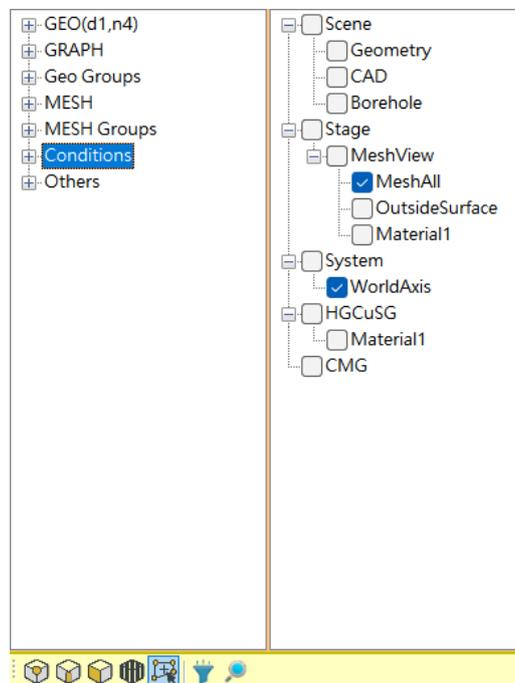

Figure 1.27. Panel view.
27. Select 'CreateGroup' tool  located below the Panel, as shown in Figure 1.27.